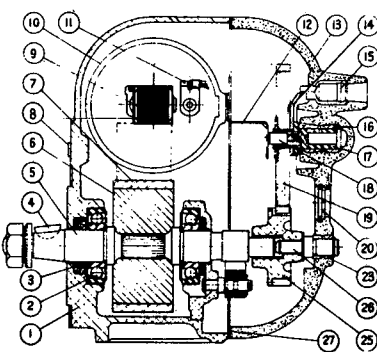

Figure 25
**NOTE:** The numbers given in the following paragraphs refer to Figures 25, 26 and 27 on Page 34.